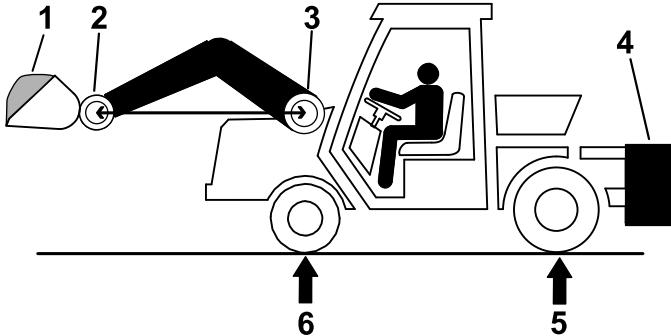

Figure 32
1. Put a full load in the bucket, lift the bucket to the furthest position forward as shown in Figure 32.
2. At a scale, measure the gross vehicle weight (GVW) at the front and rear axle, with the loader raised so that the bucket pivot pin is as high as the boom pivot pin (Figure 32).
**Note:** If R is **less** than required rear axle weight (RRAW), no ballast is required (Figure 32).